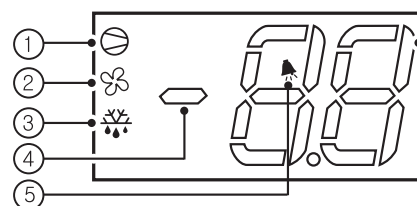

Fig 8-1
8.2 LED Display Symbols (Fig 8-1)
- ①, : ON if compressor output is ON.
- ②, : ON if evaporator fan is in operation.
- ③, : ON if manual and electric defrost is in operation.
- ④, : ON if temperature is displayed ($-99 \sim 99^{\circ}\text{C}$).
- ⑤, : Alarm in progress.